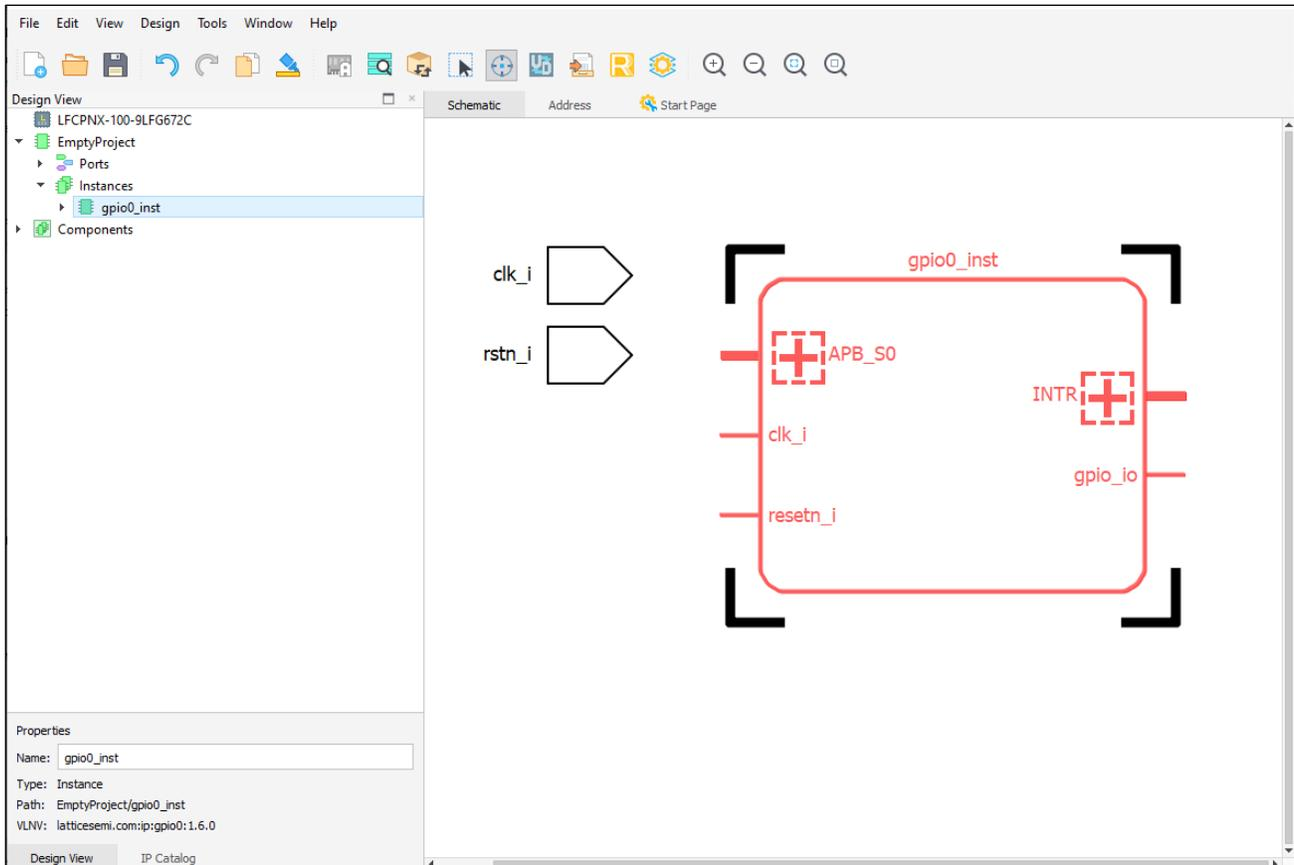

Figure 2.41. Locate Objects
- Select the object in the List view of the Design View. The selected object is in the center of the Schematic View (Figure 2.41).